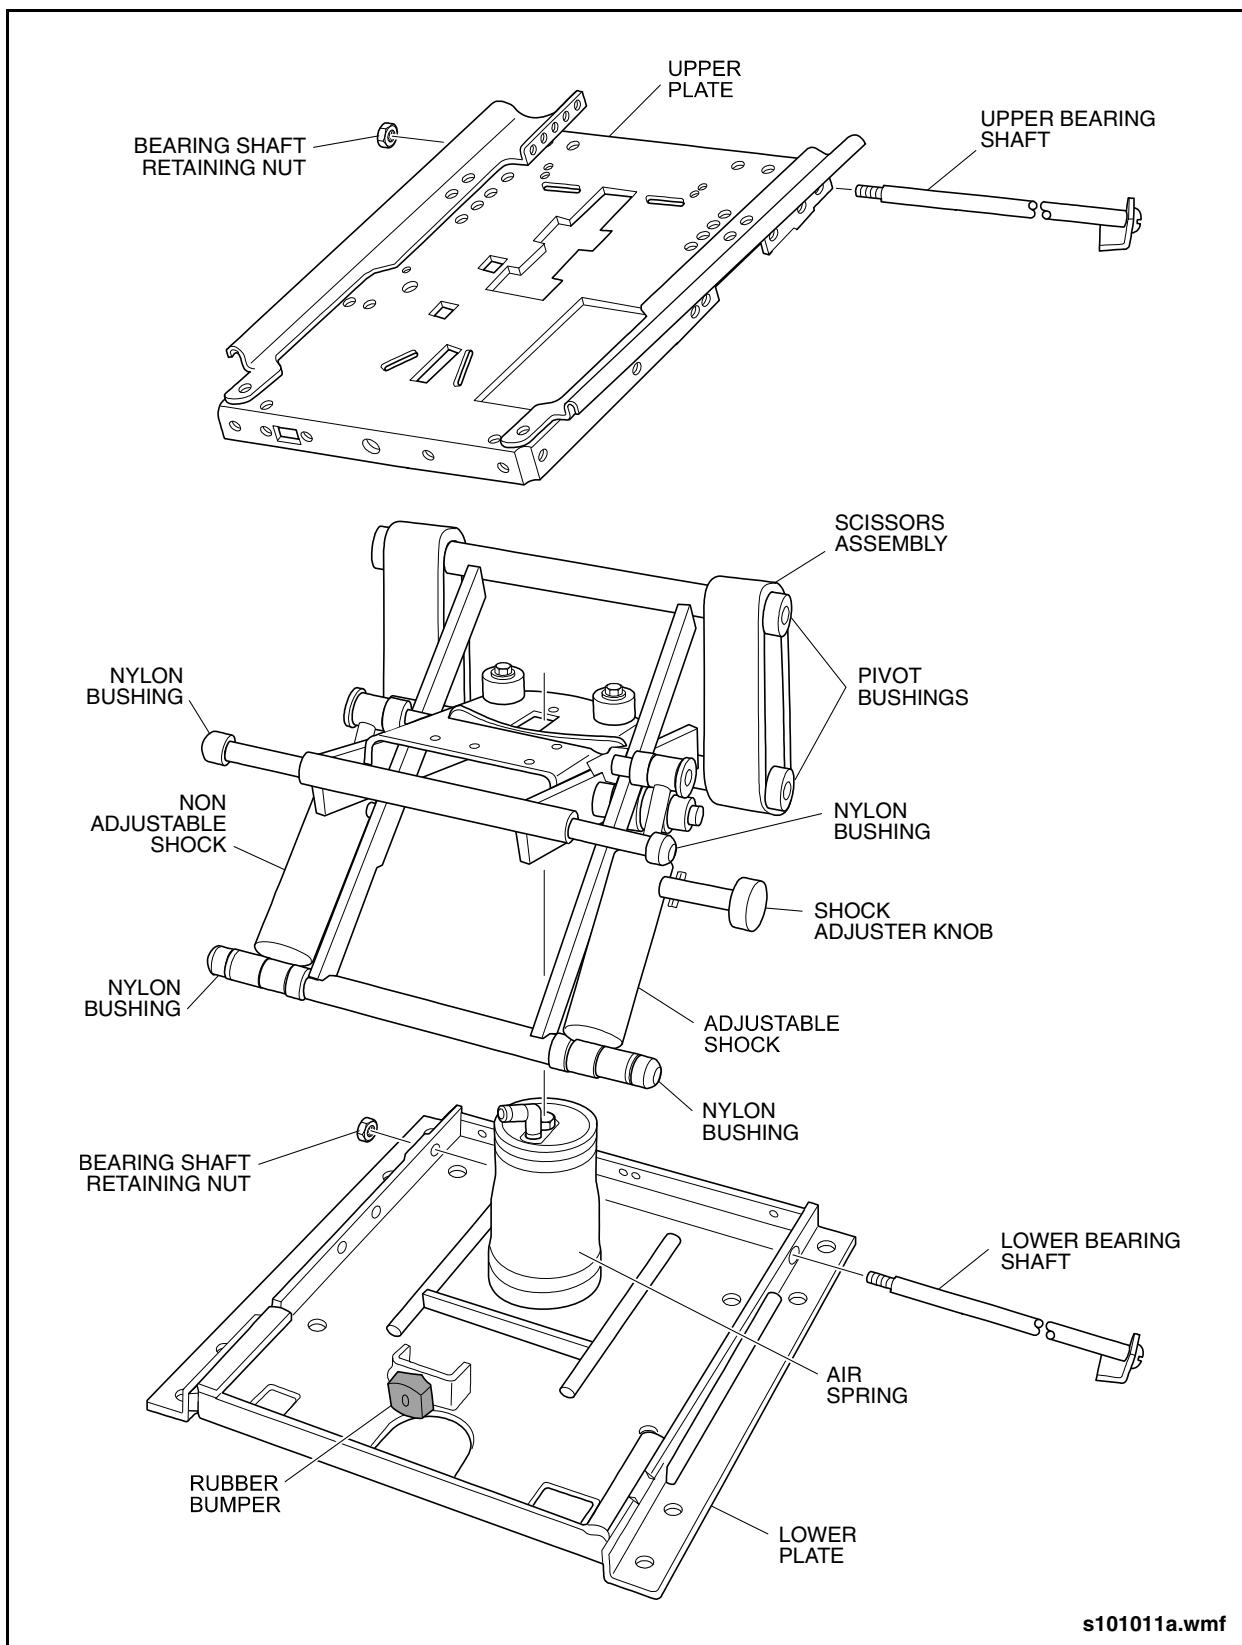

Fig. 17-11: Suspension Mounts
4. Remove the bearing shaft retaining nut at the right rear of the suspension lower mounting plate. See "Fig. 17-11: Suspension Mounts" on page 12.